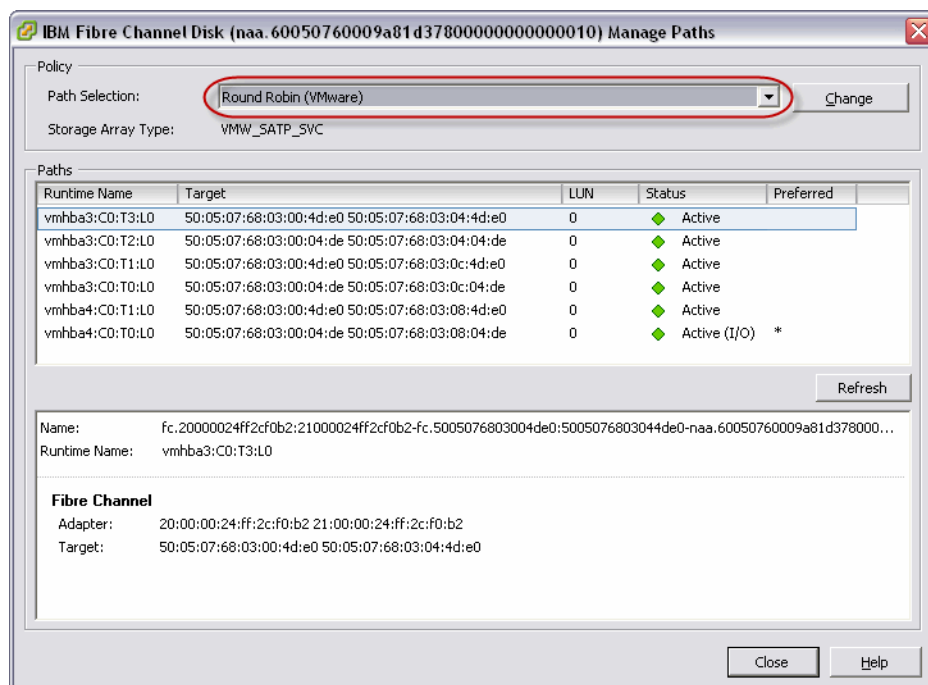

Figure 5-59 Select a data store multipath setting
- Click **Manage Paths** to customize the multipath settings. Select **Round Robin** (as shown in Figure 5-59) and click **Change**.